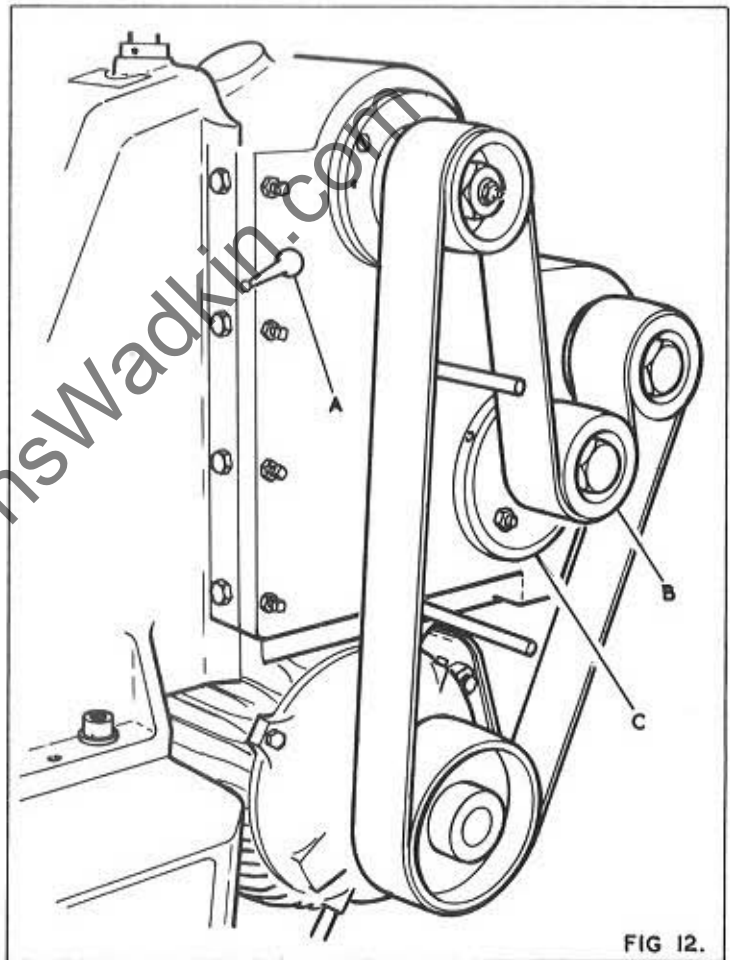
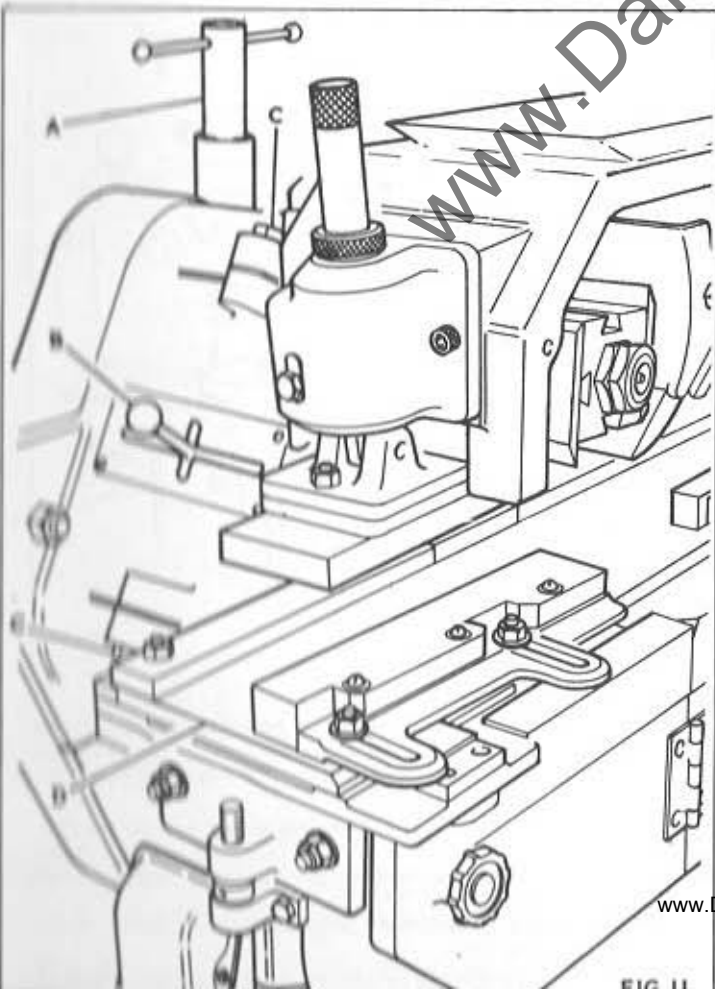

FIG 12.
FIG 11.
Vertical adjustment to the head is by the handle "A" in fig. 11 and lateral adjustment of $\frac{1}{2}$ " (13mm) by the lever "B". The vertical movement of the head is locked in any position throughout its travel by means of the two ball lever screw "A" in fig. 12 and the lateral movement is locked by the hexagon nuts "C" in fig. 11 depending whether the head is being used as a top or bottom head.
The belt drive to this head is as shown, in fig. 12 and tension is provided by the jockey pulley "B" depending on the position of the head.
1. Remove cutterblock, belt guard at rear of head assembly, and the belt. Unlock hexagon head bolts "C" in fig. 11.
3. Move handle "B" in the opposite direction to that in operation 2 and withdraw the dummy quill "C" in fig. 12 which also carries a jockey pulley.
4. Replace the dummy quill "C" in the position which is not being used and push up to the stop. Make sure that handle "B" in fig. 11 is in the vertical slot and away from the position in which the dummy quill is being fit.
7. Replace belt, as shown in fig. 12 and re-tension belt by the jockey pulley on the dummy quill "C" and then replace belt guard.